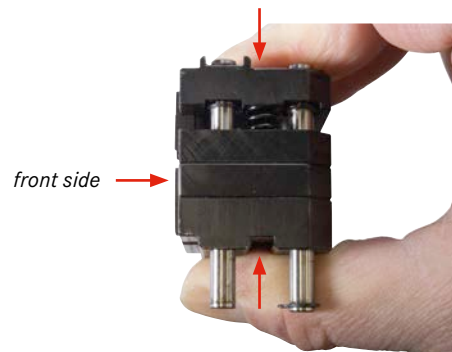

Fig. 6:
- Press the insert (partially) together to compress the springs as shown in Fig. 6.